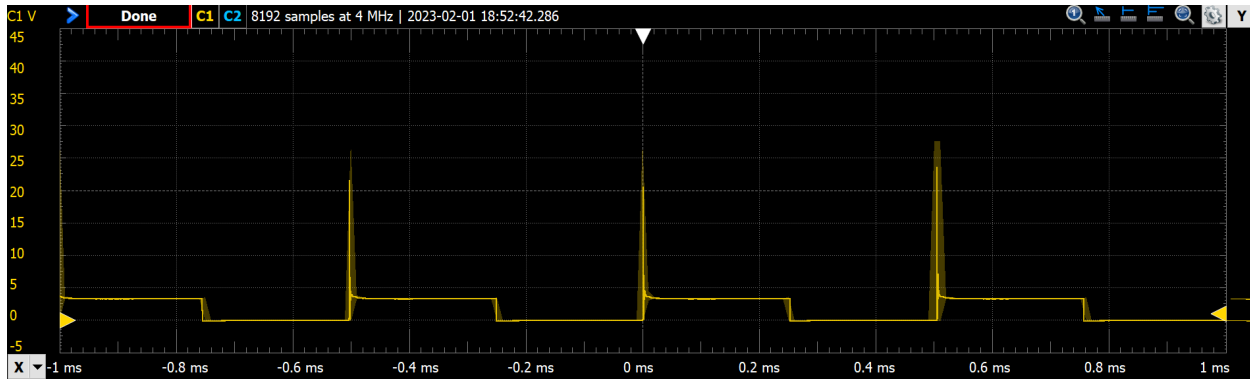

Figure 3.3a. Scope trace of the voltage on the speaker. 32-ohm speaker 0- Ω resistor between pin and gate, and IRLD120 MOSFET.
3. We expect you to use a real oscilloscope. Use it to measure the speaker voltage when the alarm is sounding with and without the capacitor. I.e., measure the drain pin of the MOSFET (bottom side of the speaker). Figure 3.3a was measured with no resistor between digital output and the gate of the MOSFET, and with no diode or capacitor. Look at the **back EMF**, which is what happens without the 10k resistor, diode, or capacitor. The **di/dt** when the current is removed is so large the inductance of the speaker produces a 25V spike. Recall the voltage across an inductor is $V=L*di/dt$. When we interface a device with inductance, we **MUST** remove the large voltage spikes caused by back EMF. **Do not try to collect data without the 10k resistor, it will destroy your circuits.**
Figures 3.3a, 3.3b, 3.3c, and 3.3d show scope traces at the drain pin of the MOSFET, which is connected to one side of the speaker. The other speaker pin is +3.3V. Current flows when the drain pin is low.
2. You can interface an 8Ω or 32Ω - speaker to an output port using an NPN MOSFET like the IRLD120. A $10k\Omega$ resistor between digital output pin and gate reduces current surges but does not affect loudness. Loudness is determined by the voltage drop across the speaker. Connect the source to ground, and the drain to one side of the speaker. Connect the other side to +3.3V. The maximum I_{DS} of the transistor must be larger than $3.3V/8\Omega$ or $(3.3V/32\Omega)$. The speaker has inductance, but the MOSFET includes an internal diode to remove back EMF when the transistor switches off. If you toggle the output pin in the background ISR, then sound will be generated. Loudness is determined by the voltage drop across the speaker. From Figure 3.3a, we see the MOSFET drain voltage is about 0.5V when active. So, the voltage drop will be $3.3V - 0.5V = 2.7V$